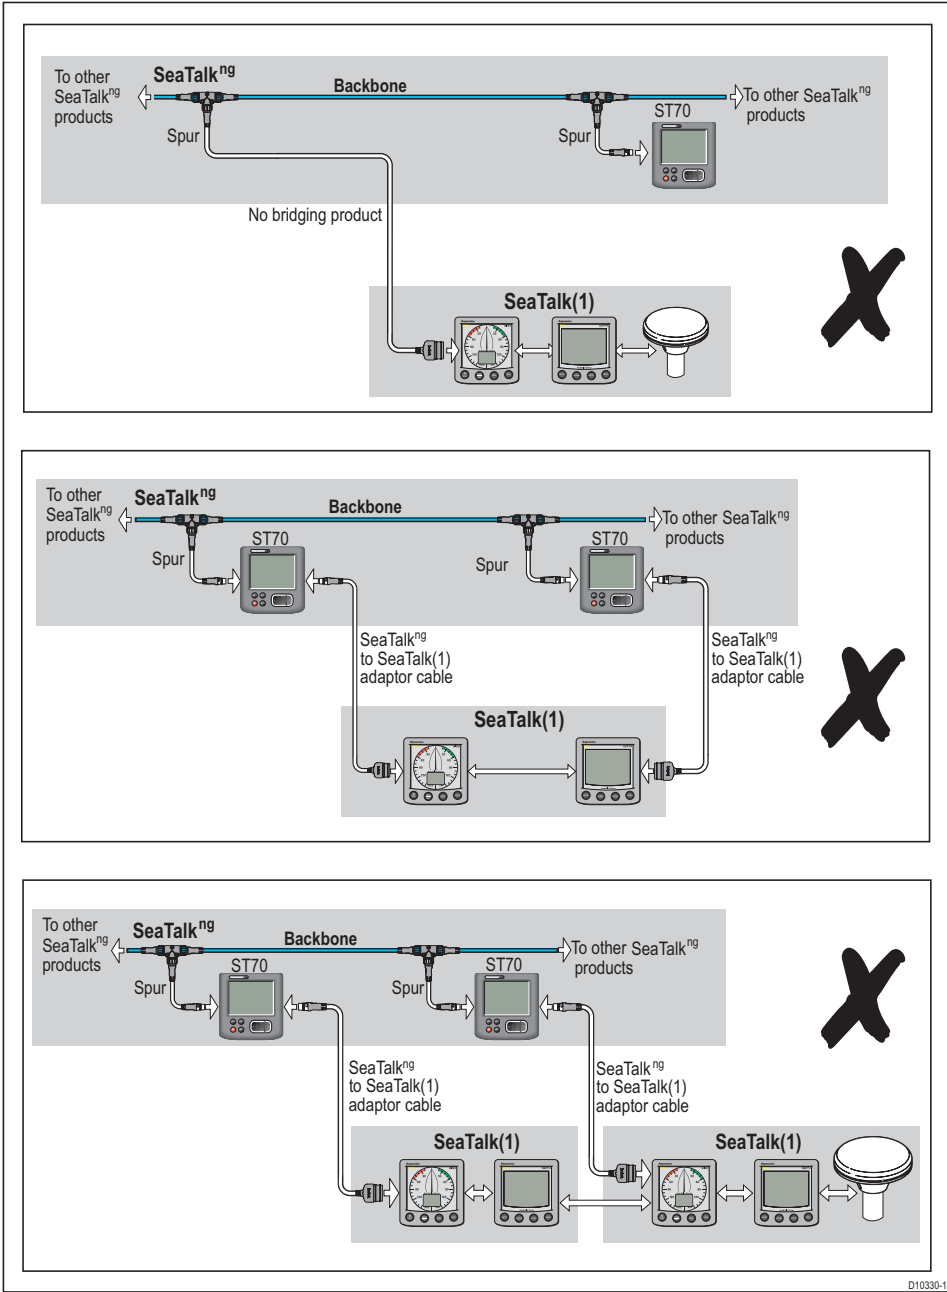

Figure 1-4 SeaTalk^{ng}/SeaTalk(1) unacceptable scenarios
- You can connect a single SeaTalk(1) network to SeaTalk^{ng} using an adaptor cable and one bridging product (e.g. ST70 instrument).
- You can connect two separate SeaTalk(1) networks to SeaTalk^{ng} using different adaptor cables and bridging products (e.g. ST70 instruments), but the two SeaTalk(1) networks must NOT be connected together.
Summaries of acceptable and unacceptable SeaTalk^{ng}/SeaTalk(1) scenarios are shown in *Figure 1-3* and *Figure 1-4* respectively.